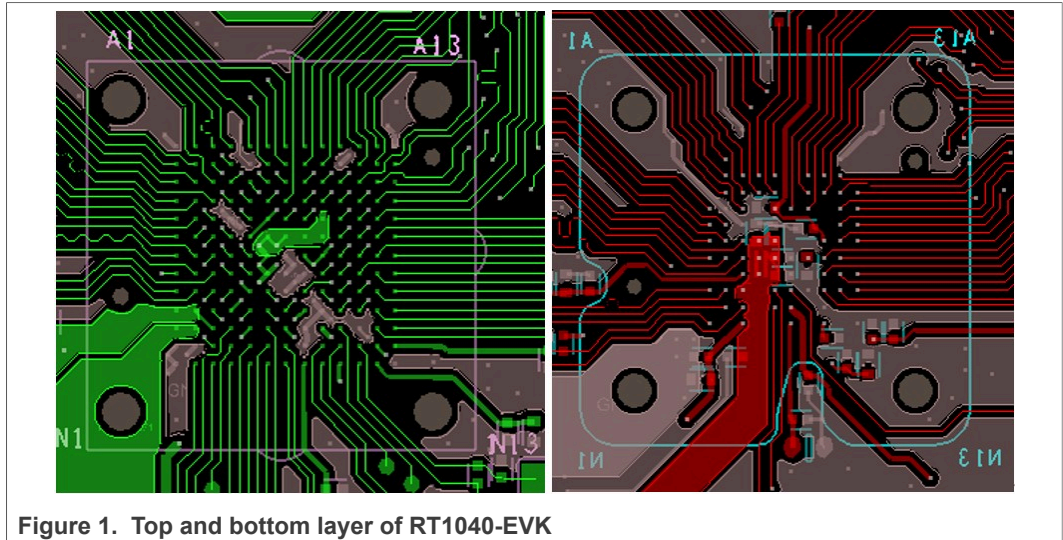

Figure 1. Top and bottom layer of RT1040-EVK
1. The signals of first two rows can fan out on the top layer directly. Other signals can fan out using vias on the bottom layer. Power and ground pin is distributed in the third row. It can fan out directly using a via hole on the bottom layer, as shown in Figure 1.
Figure 1 lists the key differences between i.MX RT1060X and i.MX RT1060. In conclusion, compared to i.MX RT1060, i.MX RT1060X has a FlexSPI2 dedicated interface, more GPIO pins, and higher Tj.